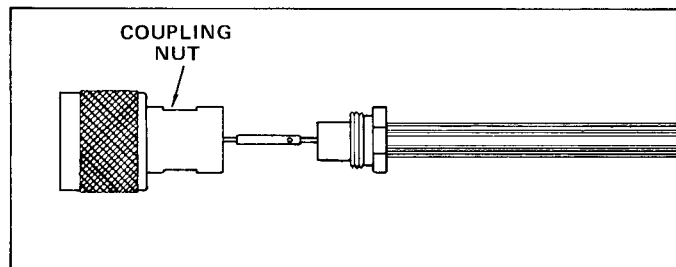

FIGURE 5
STEP 5. Screw Type N, BNC, or TNC coupling nut onto adaptor as shown in Figure 5. Tighten connection with wrenches. Turn coupling nut only; do not turn adaptor. Correct gap between coupling nut and adaptor after tightening should be approximately 3/32 in. (2 mm).